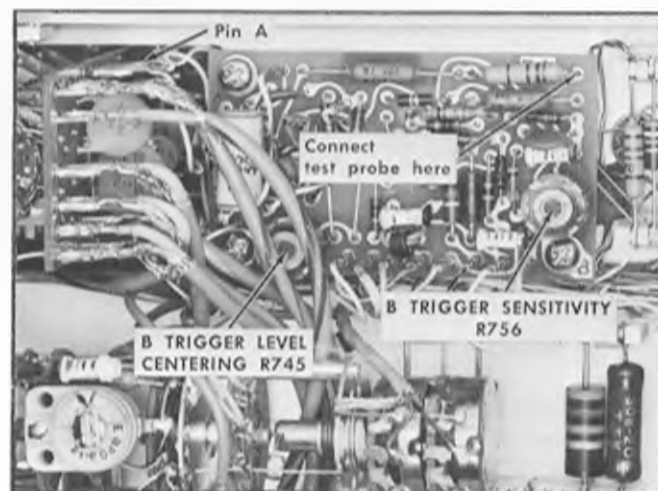
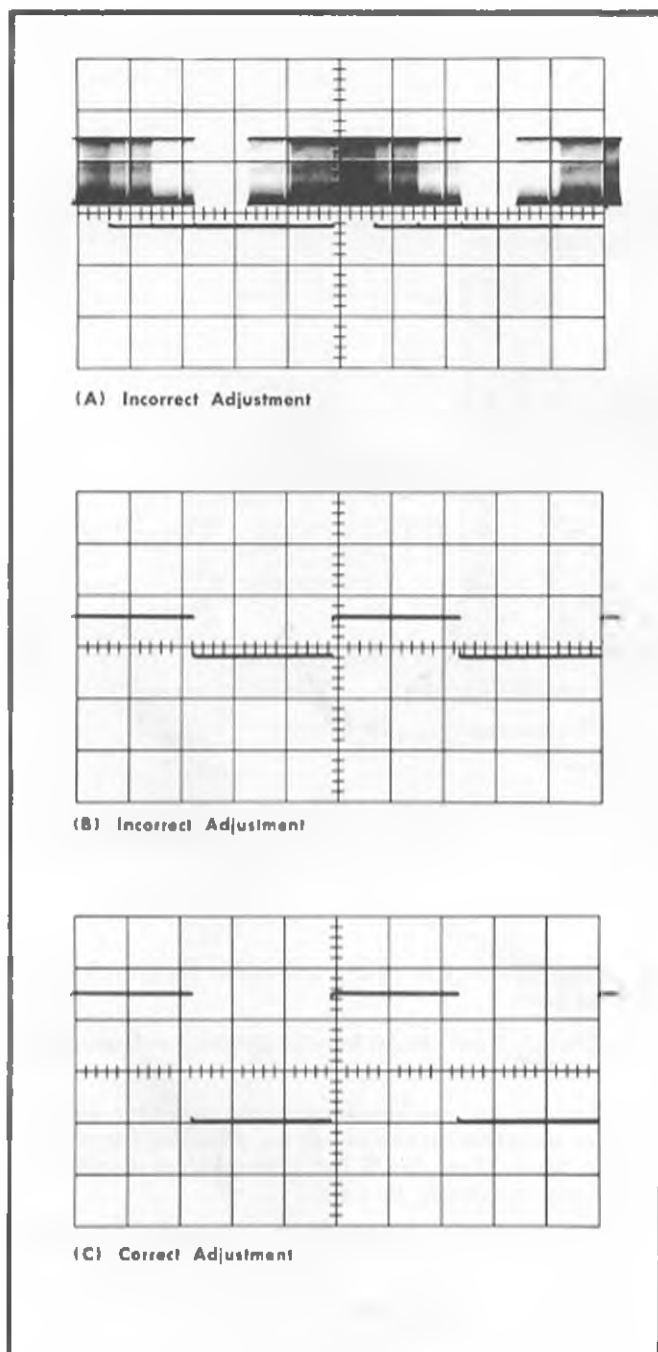

Fig. 6-28. External triggering adjustment locations, B sweep.
Fig. 6-29. Trigger adjustment waveforms.
i. Connect the 10X probe tip to the junction of R755 and R756. Fig. 6-28 shows the connecting point for the probe tip.
m. Adjust Trigger Sensitivity R756 and B Trigger Level Centering R745 to obtain the correct stable display on the test oscilloscope as shown in Fig. 6-29. The locations of R756 and R745 are shown in Fig. 6-28.
a. Connect a 10 $\times$  probe from the test oscilloscope pin A (to grid of V734B) on the B trigger switch board [see Fig. 6-28]. Check that the B Triggering SLOPE switch is set to +.